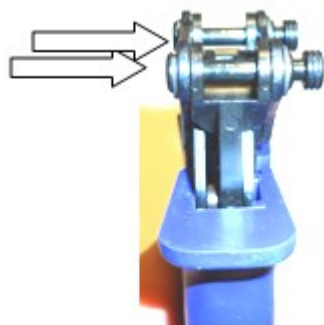
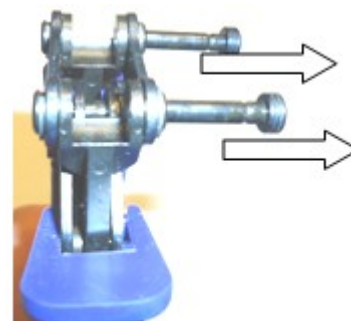

Figure 1
Figure 2
1. Push on both attachment pins from the front to disengage the locking feature of the pins, as shown in ***Figure 1*** above. Turn the tool around and manually pull out on each of the pin heads to fully retract the pins until each pin locks into the retracted position, as shown in ***Figure 2*** above.